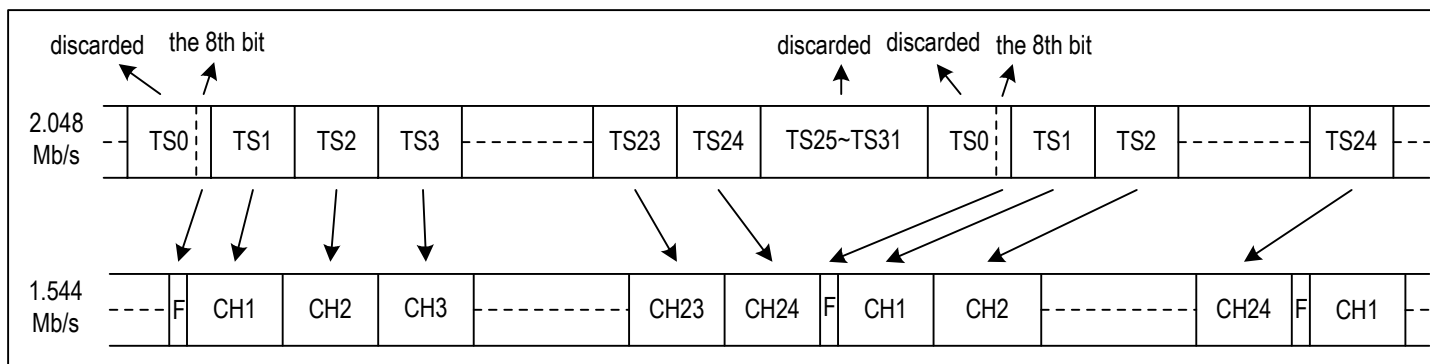

Figure 26. E1 To T1/J1 Format Mapping - Continuous Channels Mode
3. T1/J1 Mode E1 Rate per Continuous CHs (refer to Figure 26): TS1 to TS24 of Frame N on the system side are converted into Channel 1 to Channel 24 of Frame N to the device. The 8th bit of Frame N on the system side is converted into the F-bit of Frame N to the device. The first 7 bits and TS25 to TS31 on the system side are all discarded.